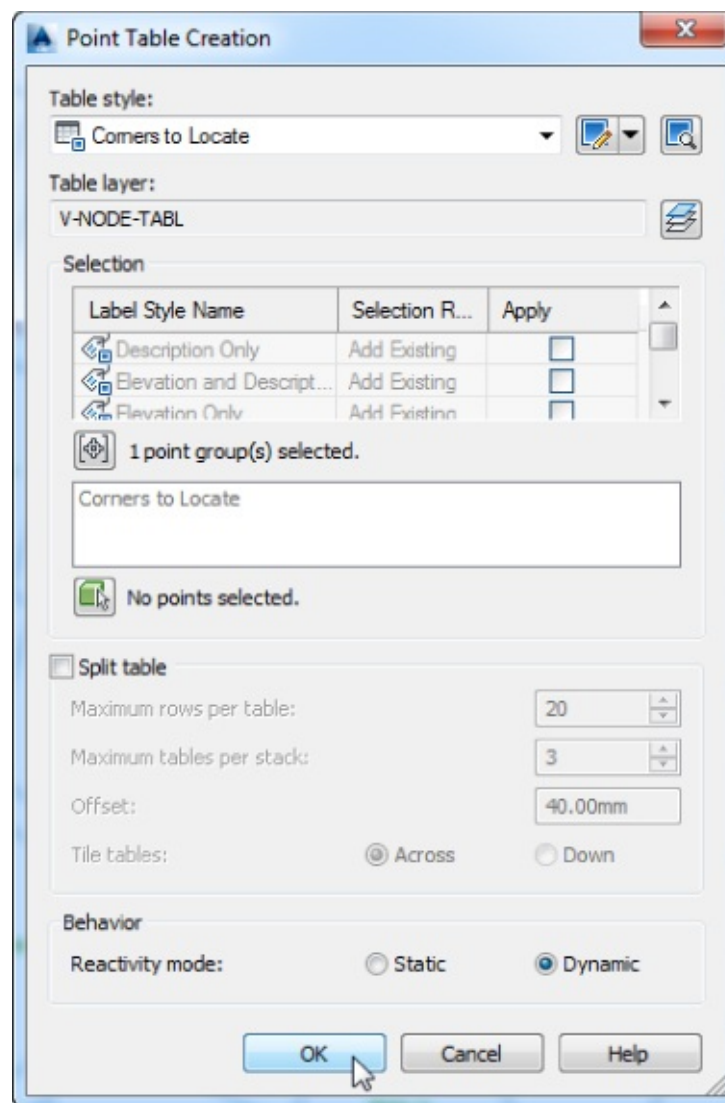

Figure 3.31 Point Table Creation options
9. Verify that the check box next to Split Table is clear. When all your settings match those in Figure 3.31, click OK.